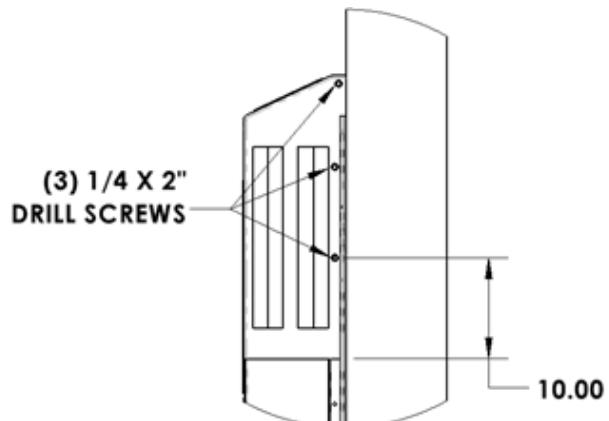

FIGURE 12
- c. (3) 1/4"x2" Long Drill Screws (I) should be used to fully secure each end of the Hood (E). The bottom 2 drill screws will mount to the Long Bracket w/Seal (A). The top drill screw will mount to the end face of the 2x4 Header (F) (Figure 12).